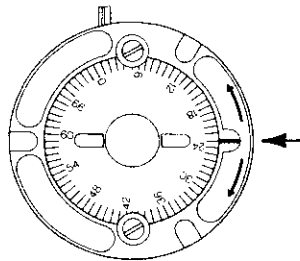

FIGURE 7.10.5
- E. Turn T-125 base over so that timing disk is facing you. Loosen timing disk retaining screw. Scribe a mark on the timing disk corresponding to the index mark on the T-125 base. This represents a point-of-reference for primary point "E" gap. (See Figure 7.10.5).